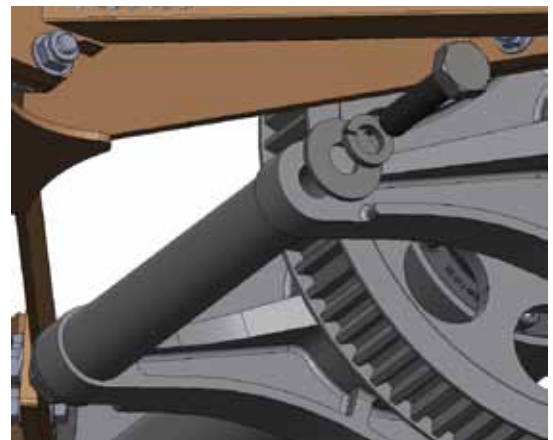

Figure 22
- f. Remove the lower front connector tube bolts, apply 2-3 drops of oil to the bolts, re-install and torque to 150 lb. ft. Figure 22